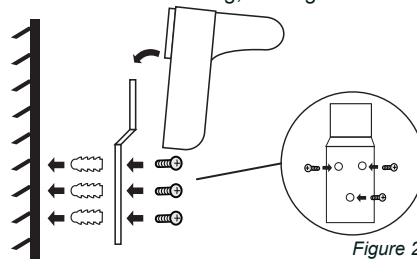

Figure 2
3. Fit the rear of the fan housing (5) onto the motor-housing (7), making sure that the openings are aligned precisely with the lugs on the motor housing and that the grip is at the top.
4. Slide the locking ring (4) onto the shaft, and screw it tight (clockwise).
5. Slide the fan blades (3) onto the shaft, making sure that the notches are aligned precisely with the two keys on the shaft.
6. Fit the spinner (2) onto the shaft and tighten it (anticlockwise) whilst preventing the fan blades from moving.
7. The rim has five clamps. Carefully fit the rim around the rear half of the fan housing, making sure that the housing falls into the upper clamp of the rim, so that you can connect the two halves of the fan housing with the nut and bolt (14). Use a crosshead screwdriver.
9. Select an appropriate location and fix the mounting bracket (11) onto a strong wall (or locate a stud behind plaster boards) with three wall plugs (13) and screws (12) supplied. (see figure 2)